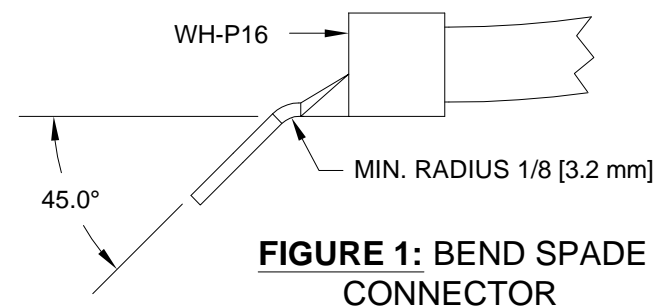

FIGURE 1: BEND SPADE CONNECTOR
Step 2: Use a hand seamer to gently bend the forward (loose) spade connector on the WH-P16 Starter Relay to Starter Wire as shown in Figure 1.